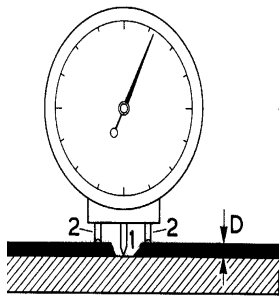

Fig. 3
The difference in height (D) between the upper surface of the coating and an exposed area of the substrate is measured by means of the free-moving plunger (1) of a dial gauge, the two feet (2) of which are placed on the surface of the coating (Fig. 3).